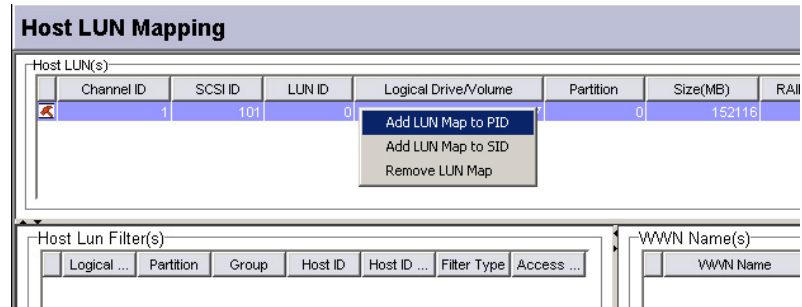

Figure 10-6: Delete LUN Command
-  **Step 2.** **Left-click** on a configured LUN and then **right-click** on the adjacent area. A command menu displays as shown in *Figure 10-6*. Select **Remove LUN Map** to complete the process.